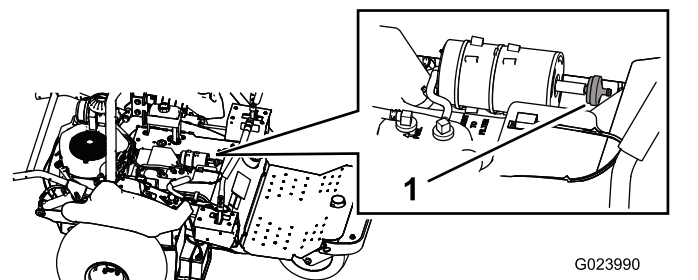

Figure 44
- Disconnect the filter from the carbon canister (Figure 44).